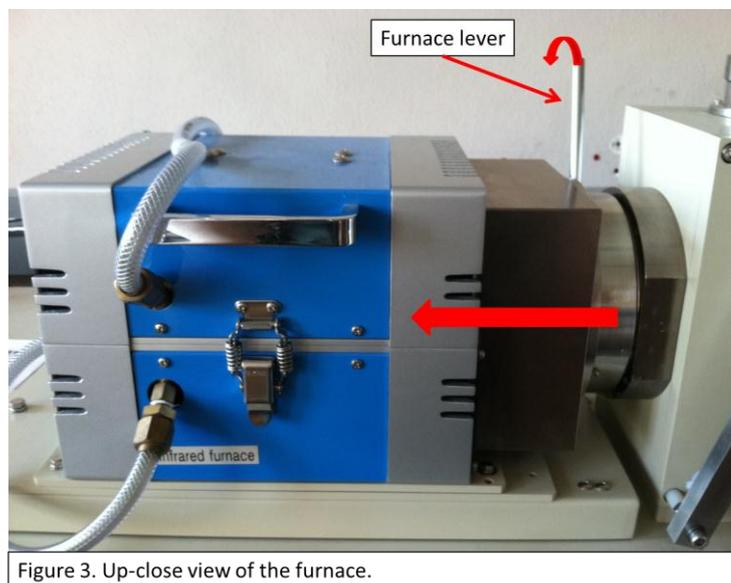

Figure 3. Up-close view of the furnace.
- Open the furnace by pushing the furnace level back and sliding the furnace open (see Figure 3).